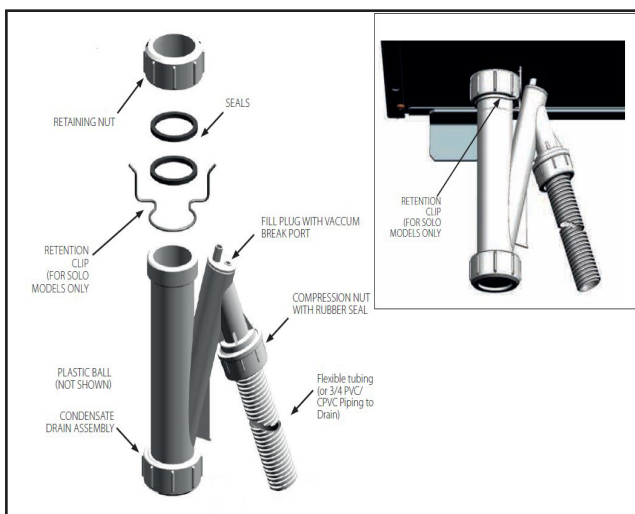

Fig. 10: Condensate Trap
1. External to the boiler cabinet, pinch and remove the retention clip securing the condensate trap. See Fig. 10.
1. Install the retaining nut and both seals onto the drain nipple. See Fig. 10.
1. Push the retaining nut and both seals onto the drain nipple. See Fig. 10.